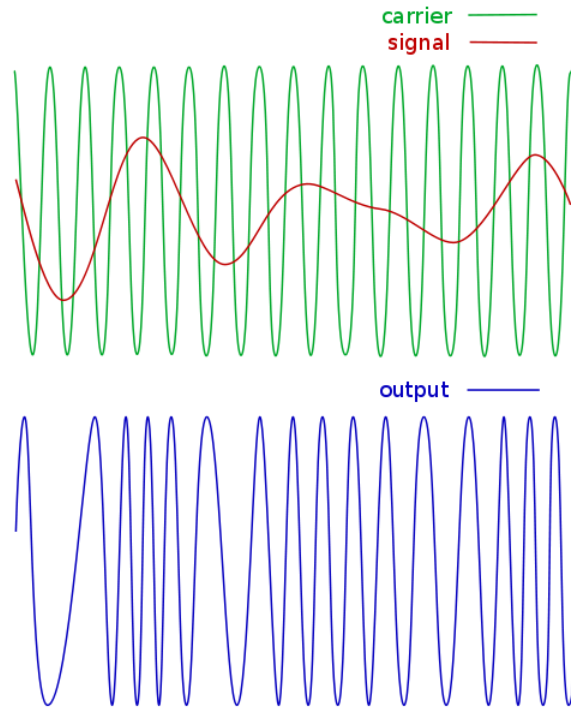

Figure 1: Frequency modulation
Frequency modulation (FM, see Figure 1) is a clever scheme for encoding a signal. Amplitude modulation (AM) radio directly mixes a carrier tone with a signal, so that the amplitude of the signal creates an envelope inside of which the carrier tone oscillates. FM instead translates the amplitude of the signal into a change in the frequency of the carrier tone (see above). FM radio stations typically transmit between 88 and 108 MHz in the US. However, for the purpose of this lab, owing to lack of radio reception in the lab, and the difficulty in using discrete components at higher frequencies, we will create our own radio station at 1.045 MHz, instead of 104.5 MHz. Typically, FM radio stations are spaced every 200 kHz, and have a frequency deviation of  $\pm 75$  kHz at maximum scale input.